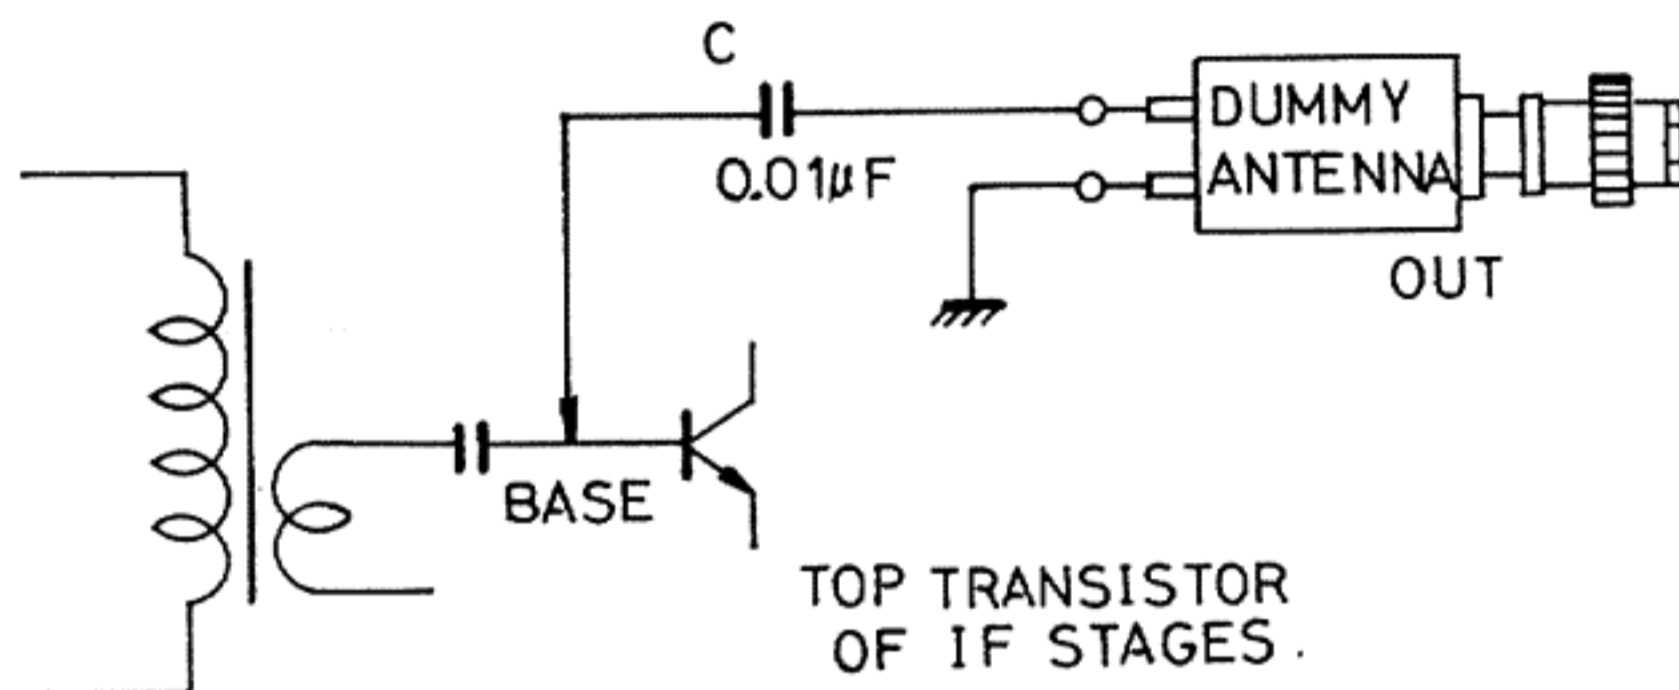

Fig. 9
- Signal generator : Turn in 455kHz and connect output of S. S. G. to loop antenna (See Fig. 9)